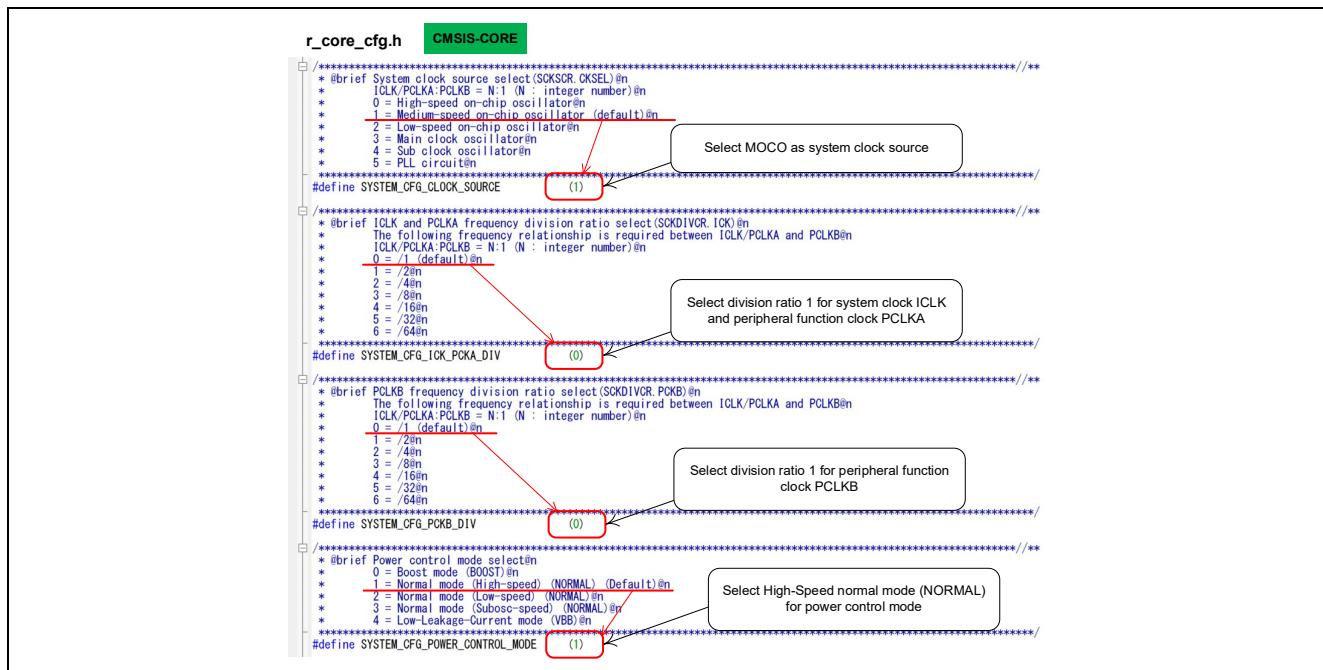

Figure 6-5 Example of Settings of Clock and Power Control Mode on Start of Operation
- Setting example: Shown in Figure 6-5.